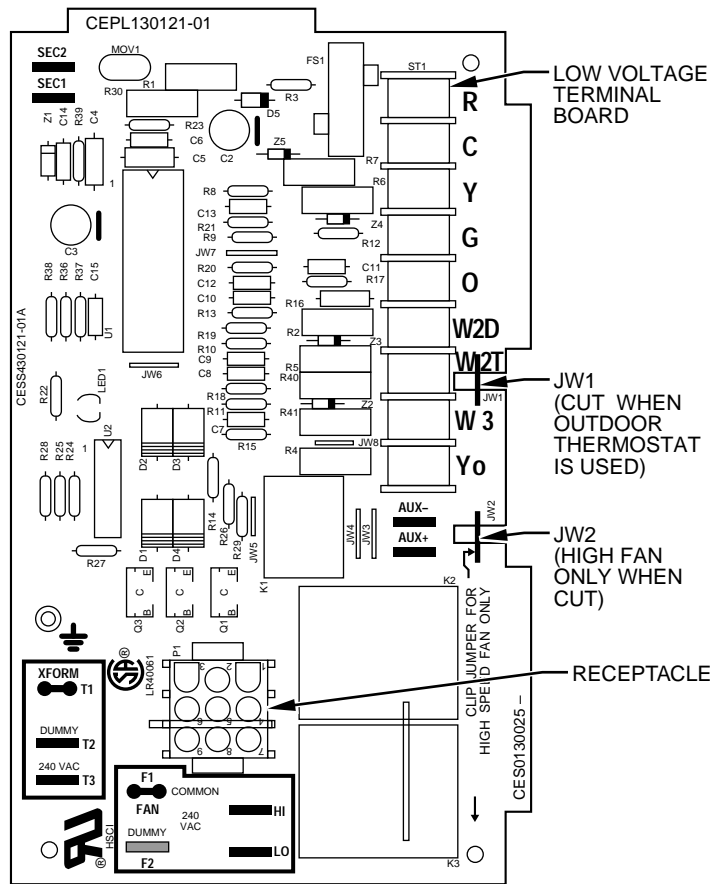

Fig. 39—Smart Heat Printed-Circuit Board (PCB)
2. Jumper wires (JW1 and JW2). (See Fig. 39.)